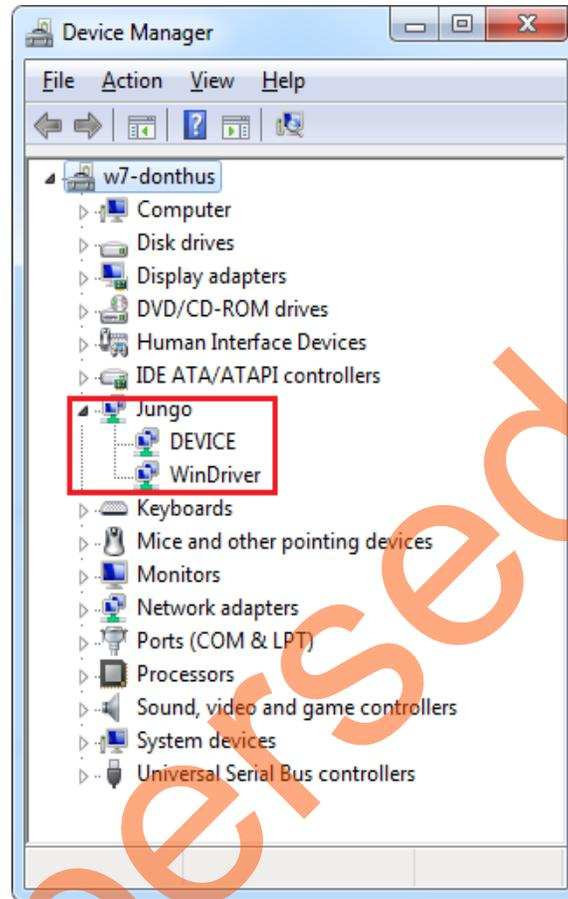

**Figure 15 • Successful Installation of GUI**
4. Click **Next** and **Finish** to complete the installation. Figure 15 shows the Successful GUI Installation window.